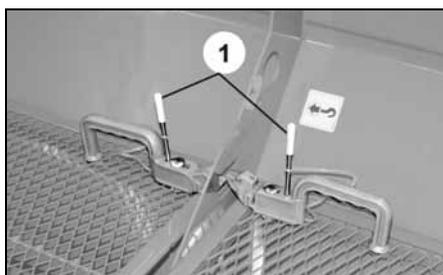

Fig. 11
- (Fig. 11/1) position de rangement (position standard)